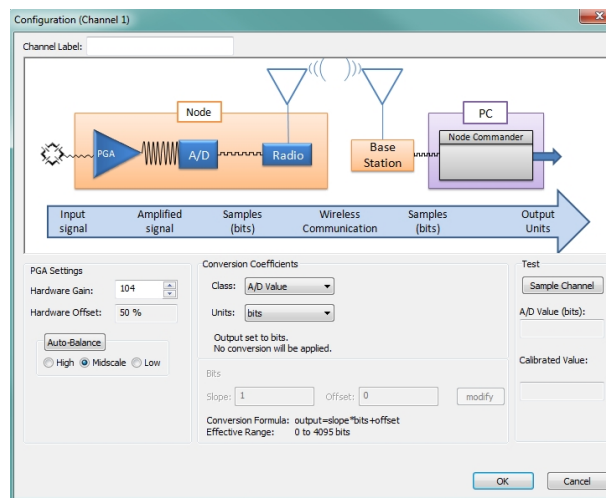

Figure 43 - Channel Settings
3. Use the following settings (*Figure 43 - Channel Settings*):